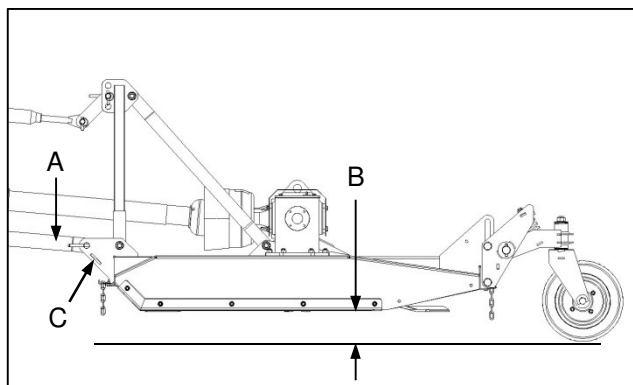

Fig. 7
- ✔ In the working position, the front of the implement is supported on the tractor 3-point hitch. To level the implement, set the lower link arm positions (Fig. 7-A) such that the implement is parallel to the ground (Fig. 7-B).
- ✔ Note that additional lugs (Fig. 7-C) are provided for the attachment of check-chains in cases where the tractor lower hitch position is unreliable or prone to sagging. Check chains of the required length (ideally adjustable)
- ✔ In die werksposisie word die voorkant van die implement deur die trekker se 3-punt-haak gesteun. Om die implement waterpas te maak, stel die onderste koppelarmposisies (Fig. 7-A) so dat die implement parallel met die grond is (Fig. 7-B).
- ✔ Let op dat bykomende aanhaakpunte (Fig. 7-C) vir die aanheg van keerkettings voorsien word vir gevalle waar die trekker se 3-punt-haak onbetroubaar is of dalk kan sak. Keerkettings van die vereiste lengte (verkieslik